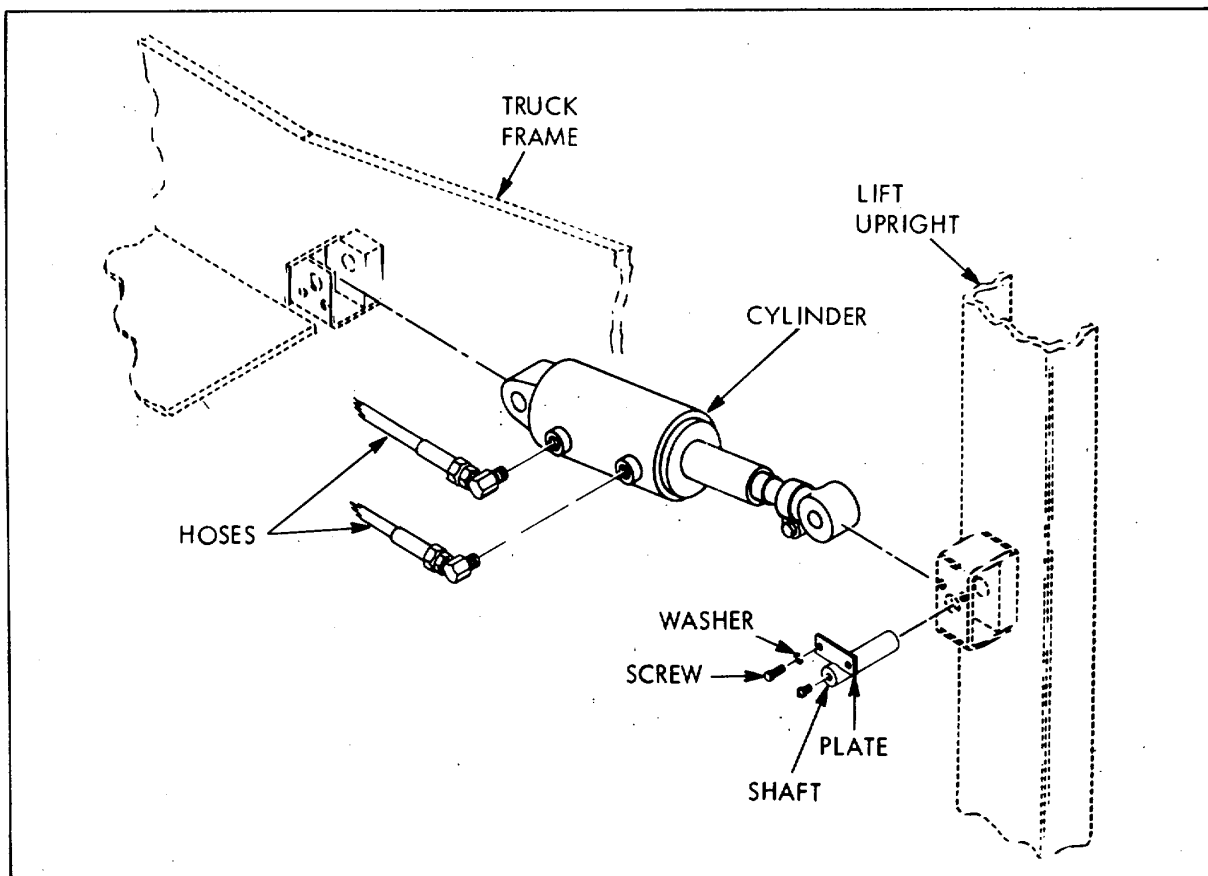

Figure 6-17. Tilt Cylinder Removal
(1) Remove truck floor plate.
(2) Tag and disconnect hoses (figure 6-17) from tilt cylinders. Cap hoses and plug ports in cylinders to exclude dirt.
(3) Support mast so it will not suddenly tilt on removal of tilt cylinders.
(1) Position tilt cylinder (back end) in U shaped bracket on truck frame (figure 6-17).
(2) Align bracket holes and cylinder end hole. Insert shaft through bracket and cylinder end hole. Secure shaft with screws.
(3) Remove plugs from ports and caps from hoses and connect hydraulic hoses to cylinders.
(4) Check oil level in reservoir.
(5) After installation, operate tilt control lever several times to purge air from cylinders. Check cylinders and hose fittings for leakage while operating.
(6) Retract both tilt pistons fully. With mast tilted 10 deg. to rear of vertical and pistons retracted fully, repeat step (2) above. Secure front end of tilt cylinders to upright brackets with shafts and attaching screws.